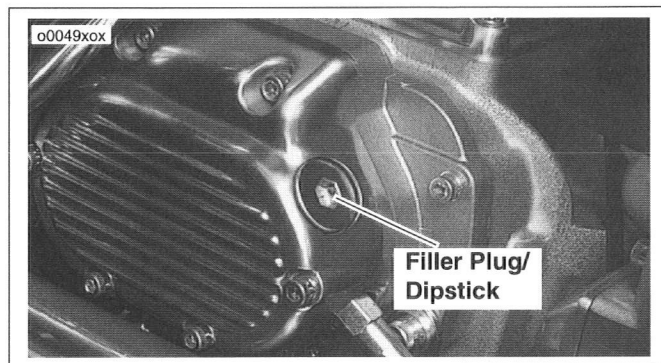

Figure 64. Transmission Case (Right Side)
1. See Figure 64. Remove the transmission filler/plug dipstick from the clutch release cover on the right side of the transmission case.